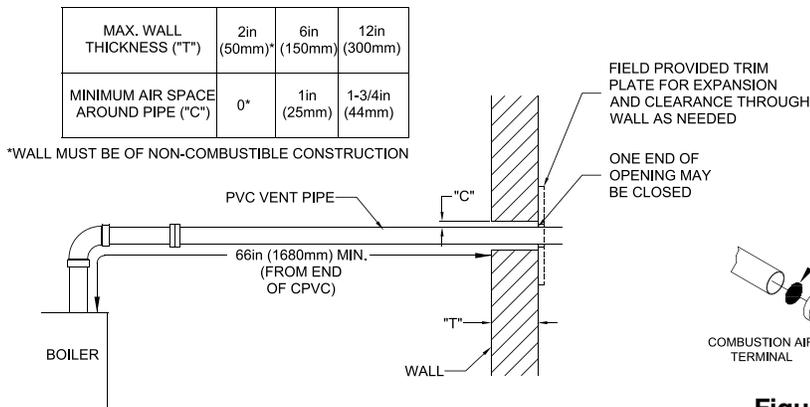

Figure 4-32: Wall Penetration Clearances for PVC Vent Pipe
- h. For ALP080B and ALP105B vent size can be reduced from 3" nominal diameter to 2" nominal diameter by mounting installer provided 3" x 2" CPVC concentric reducing coupling or PVC concentric reducing coupling, in vertical position only, onto the end of supplied CPVC vent pipe. See Table 4-3 Notes and paragraph 6 'Horizontal Sidewall Termination' and Figure 4-32 'Wall Penetration Clearances for PVC Pipe for PVC usage for venting limitation). Thereafter, the balance of vent pipe up to vent termination can be done with PVC (ASTM 2665) pipe.
- Following the installation of factory supplied near boiler CPVC venting components (30" long pipe and 90° elbow, where applicable) **PVC pipe may be used to penetrate combustible or non-combustible walls up to the exterior vent termination only if the following three conditions are met simultaneously** (see Figure 4-32):
- The minimum air space shown in Figure 4-32 is maintained around the outside of the vent pipe to provide air circulation.
- Install contractor provided optional trim plate on wall outside surface to cover wall opening (see Figure 4-32).